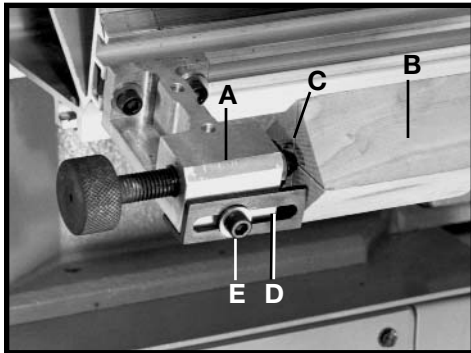

Fig. 80
Move the left pattern holding bracket (A) Fig. 80 to the left edge of the duplicator guide rail, and place the turning (B) against the threaded center pin (C). Move the right pattern holding bracket against the turning on the right side of the duplicator.
Thread the center pins of the pattern holding brackets (A) Fig. 80 into the ends of the turning (B) to prevent the turning from moving as the follower arm moves across the contours of the turning. Lock the pattern holding brackets (A) in the desired position on the duplicator guide rail. Slide the safety brackets (D) against both ends of the turning (B) Fig. 80, and tighten lock screws (E). **IMPORTANT: These safety brackets (D) will prevent the follower arm from accidentally moving off the turning and damaging the tool bit or causing personal injury.**